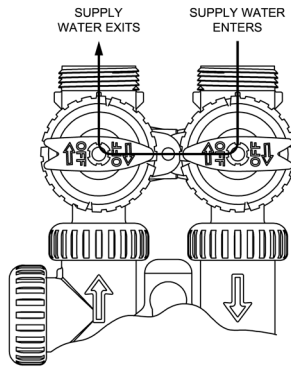

Figure 18:
- 2. Bypass Position:** The inlet and outlet handles point to the center of the bypass, the control valve is isolated from the water pressure contained in the plumbing system. Untreated water is supplied to the plumbing system. (See Figure 18)